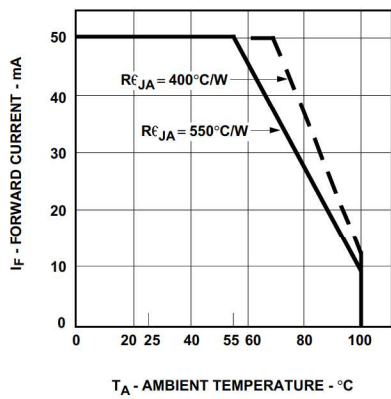

Figure 5. Maximum Forward DC Current vs. Ambient Temperature. Derating Based on $T_{JMAX} = 110^\circ\text{C}$.
3. Derate linearly as shown in Figure 5.